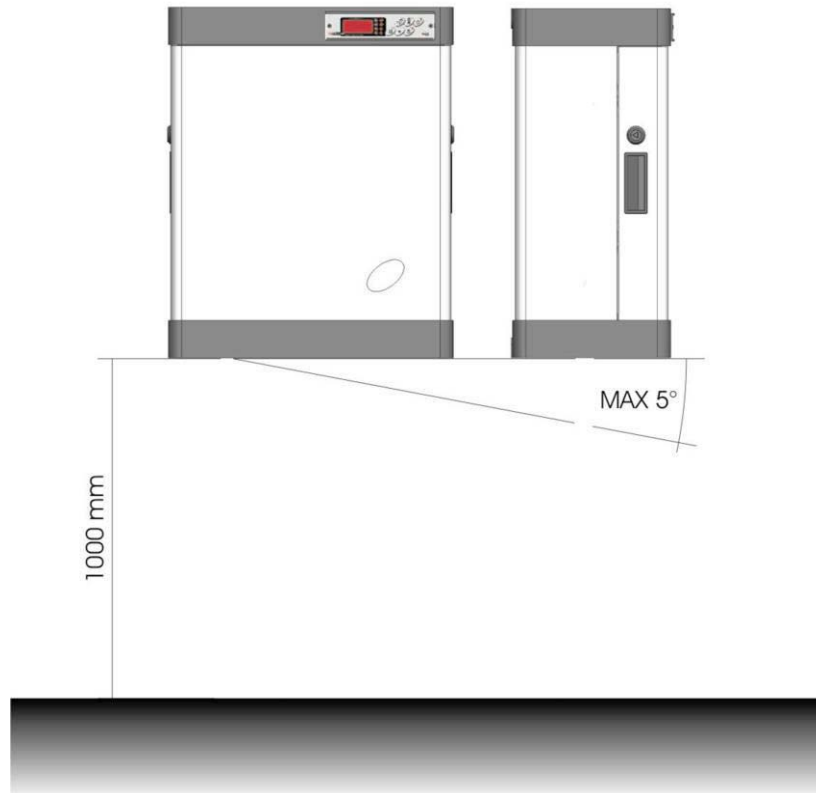
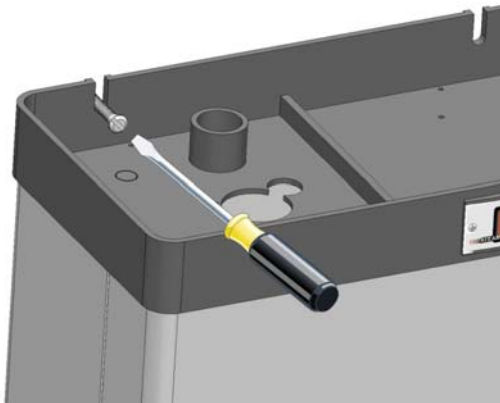

Fig. 1
Fig. 2
2. Fix the humidifier to the wall, preferably 1 m above the ground and perfectly level (fig. 1); use the 4 slots at the rear to insert the fixing screws (fig. 2 and 3).